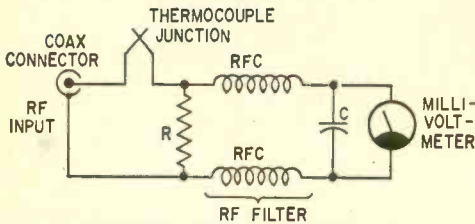

Fig. 22. Two RFCs and C form RF filter that is used in many instruments to isolate RF; pass DC to meter.
Another way to use a thermocouple is shown in Fig. 22. Here the thermocouple is in series with the dummy load (R). Current flowing through the thermocouple causes self heating and generates a DC voltage which is developed across R and measured